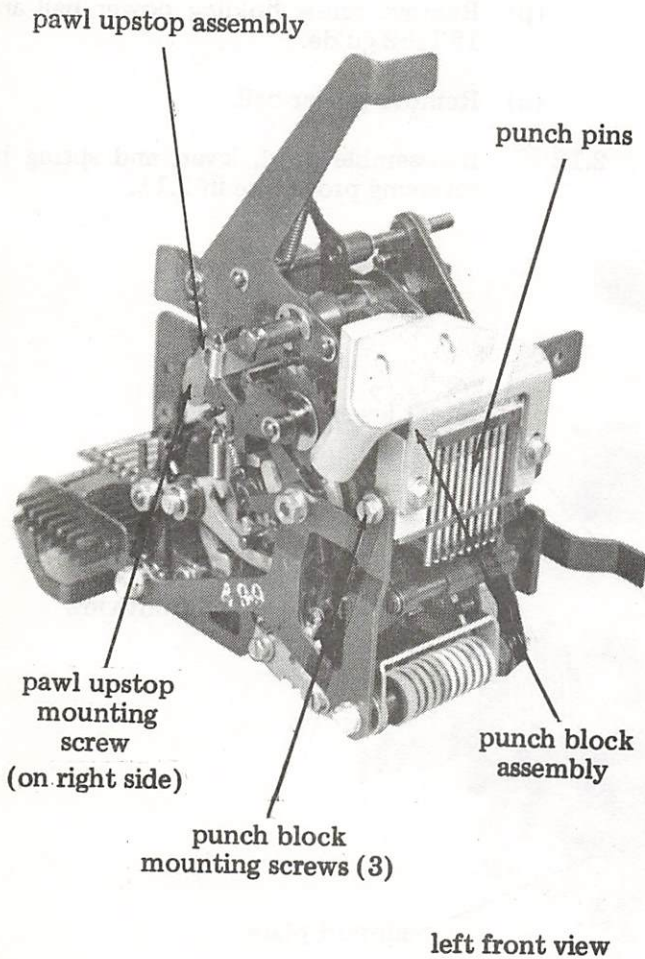

Figure 2 - Punch Block and Pawl Upstop Assemblies
2.05 Disassemble punch block (Figure 2) as follows:
2.07 Disassemble pawl upstop assembly (Figure 2) as follows: